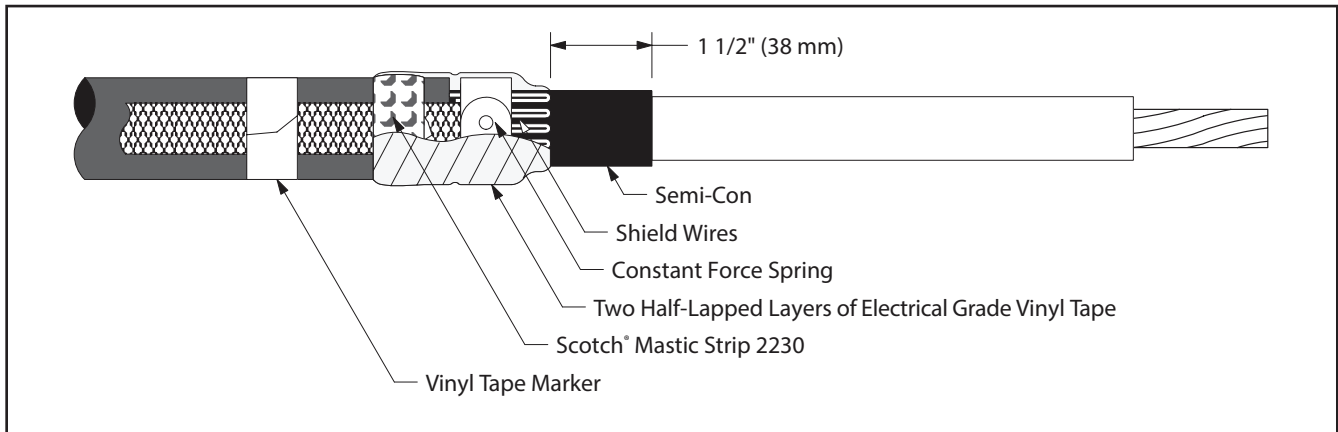

Figure 12
- 8.5 Wrap two highly stretched half-lapped layers of electrical grade vinyl tape around mastic seal, constant force spring and exposed shield wires (*Figure 12*).